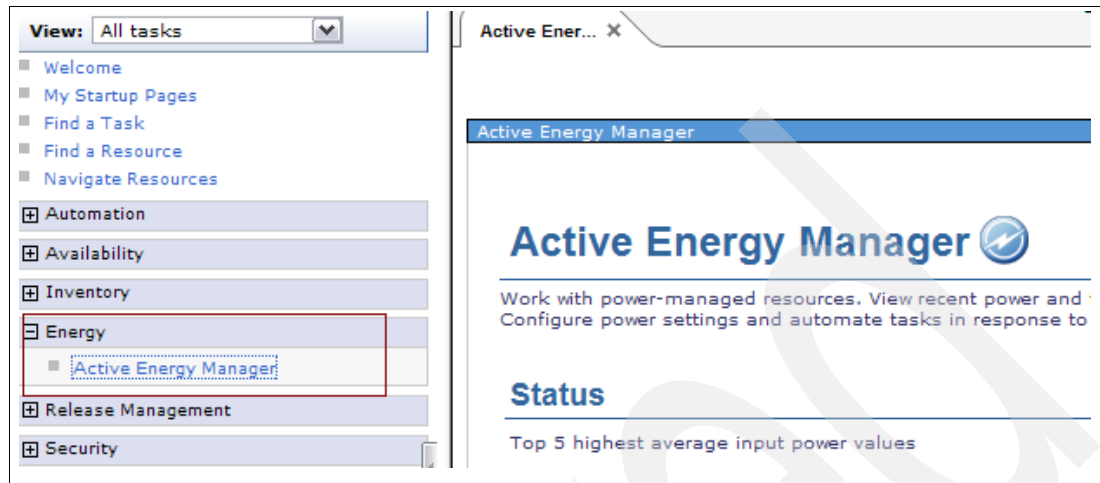

Figure 5-29 Active Energy Manager
2. Expand the **Energy** tab to view the Active Energy Manager pane, as shown in Figure 5-29.